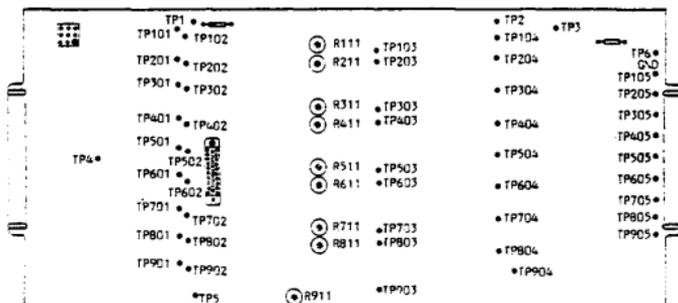

FIGURE 5
- Connect the scope probes to TP5 (ground) and TP603 (Data A Board). See Figure 5.
- Connect the scope probes to TP5 (ground) and TP103 (Data A Card). Refer to Figure 5.